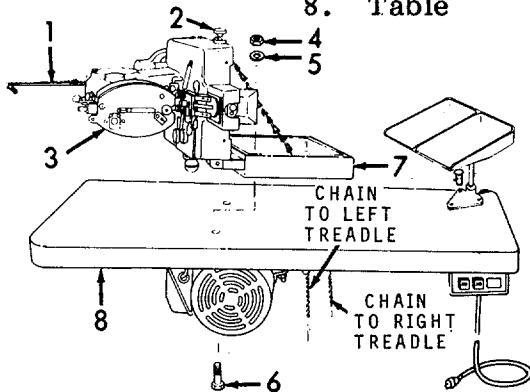

Figure 2-61. Button Sewing Machine, Removal.
(1) Remove four nuts (2), four washers (3), four bolts (4), and four washers (5).
(2) Remove grommet press (1) and stow in storage box number 1.
(3) Reinstall four washers (5), four bolts (4), four washers (3) and four nuts (2) into table (6).
e. *Disassembly of Button Sewing Machine* (Refer to Figures 2-61 and 2-62).
(1) Remove thread unwinder (1) and stow in storage box number 3.
(2) Remove pulley belt and stow in storage box number 3.
(3) Loosen thumbscrew (2) and tilt head (3) back.
(4) Disconnect chains from machine levers and treadles. Stow chains in storage box number 3.